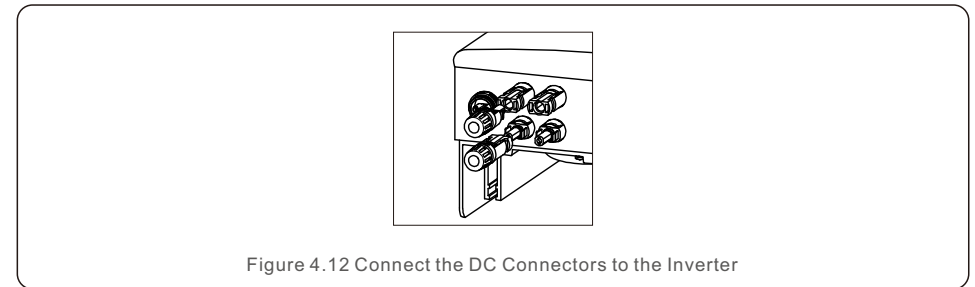

Figure 4.12 Connect the DC Connectors to the Inverter
5. Then connect the DC connectors to the inverter. Small click will confirm connection. (see figure 4.12)